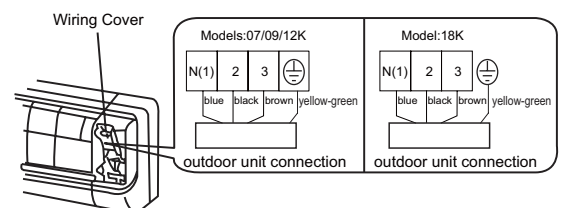

Fig.2
2. Remove the wiring cover. Connect and fix the power connection cord to the terminal board as shown in Fig 2.